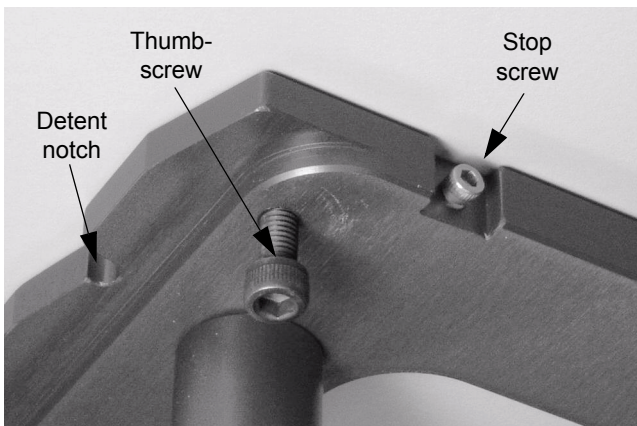

Figure 3. Adjusting screws at back of Siemens block tray
- 2 If the detent fit is loose, unscrew the two stop screws (Figure 3) outward an equal dimension until a tight fit is achieved.
- 3 Screw in the two thumbscrews (Figure 3) at the rear of the assembly until they contact the accessory tray above the tray block. Tighten firmly by hand without tools. These screws help support the IMF and prevent sag due to shortness of some accessory holder slots.